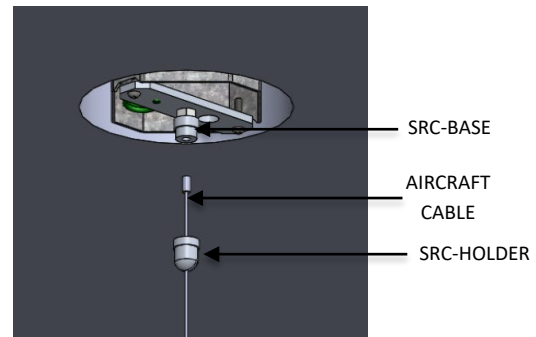

FIG. 27 – AIRCRAFT CABLE
4. Feed the AIRCRAFT CBALE through the SRC-HOLDER and assemble the SRC-HOLDER to SRC-BASE as shown below in FIG. 27.